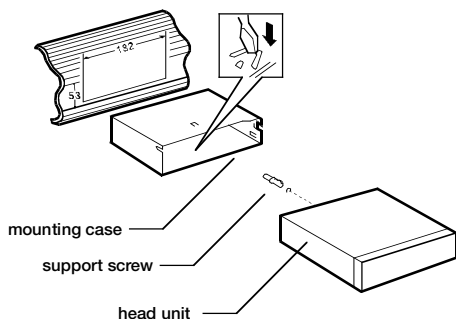

Figure 3 Bending the support tabs
4. Insert the mounting case for the head unit into the dashboard. Inspect the dashboard material to determine its approximate thickness. Select the appropriate support tabs and bend them outward to secure the bracket in place (**Figure 3**).